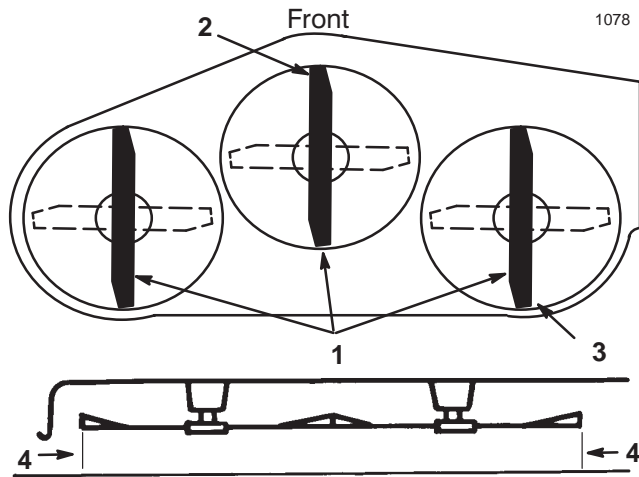

Figure 53
13. Check the front-to-rear slope by measuring between the bottom of the mower (front center and rear center) and the flat surface (Fig. 53). If the front blade tip is not within a range of 0 to 5/16 in. (0 to 8 mm) lower than the rear, an adjust the front mower mounting plate at the axle (Fig. 53).